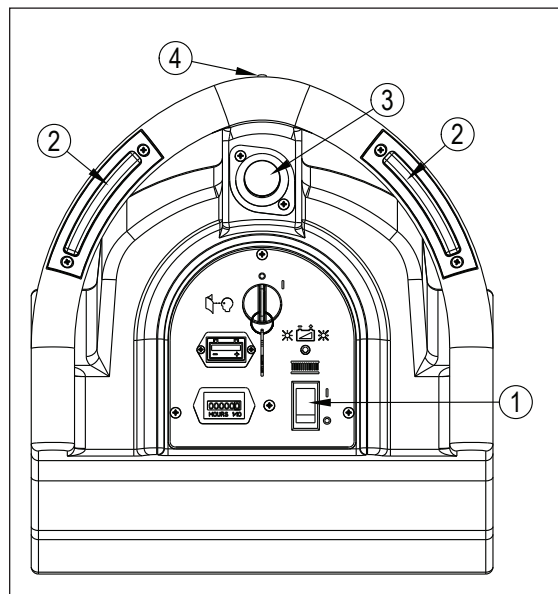

Figure 10
2. Turn the pad power switch on (1 - figure 10).
3. When either the right or left pad/traverse switch (2 - figure 10) is pushed in, the pad motor will start and the traverse motor will propel the machine forward.
4. Control the speed of traverse by using the speed control knob (3 - figure 10).
6. To reverse the machine, push in the traverse reverse switch (4 - figure 10) and either the right or left pad/traverse switch (2 - figure 10) at the same time.